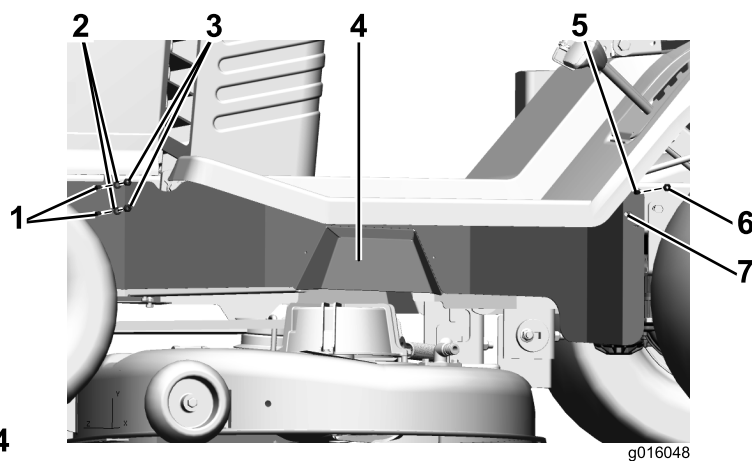

Figure 5
1. Attach the left frame belt guard as shown in Figure 5.